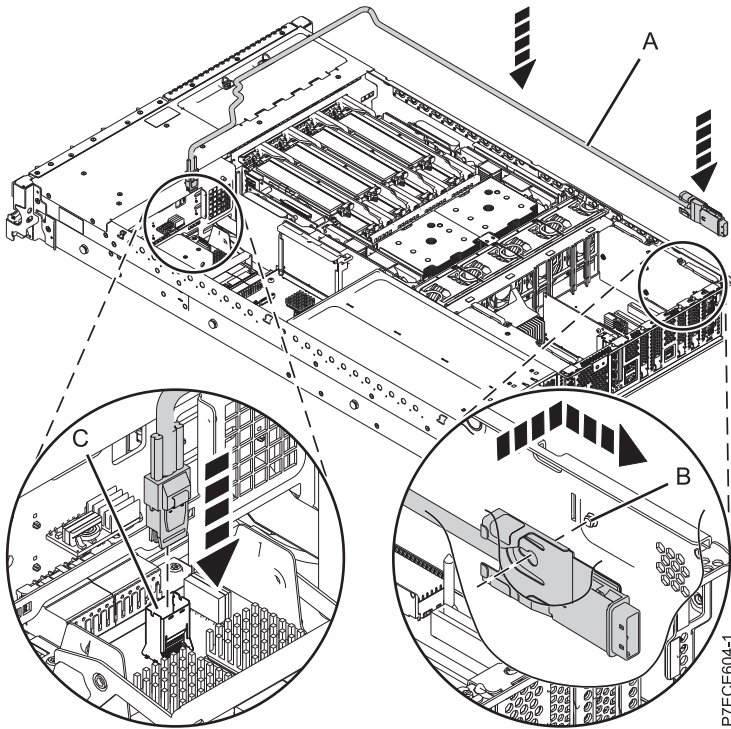

Figure 23. Replacing the SAS cable
- 1) Connect the mini-SAS connector of the SAS cable to the internal SAS connection port (C) on the storage interposer until it snaps in place. See Figure 23 on page 24.
- 2) Route the cable (A) in front of the memory riser cage, and along the channel in the side wall until the SAS port connector is near the opening on the rear of the chassis.
- 3) Align and guide the slot in the bracket of the SAS port connector (B) over the guide pin in the chassis, then slide the SAS port connector into the opening on the rear of the chassis until the tab on the bracket snaps in place.